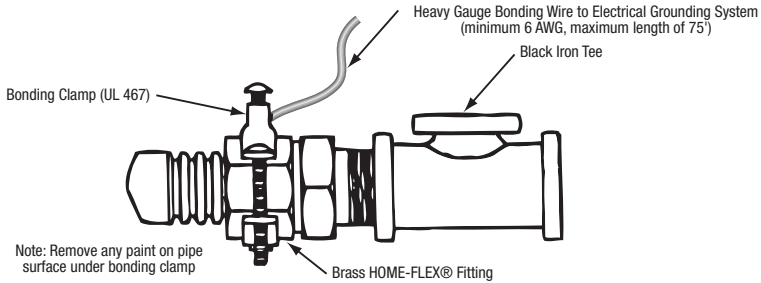
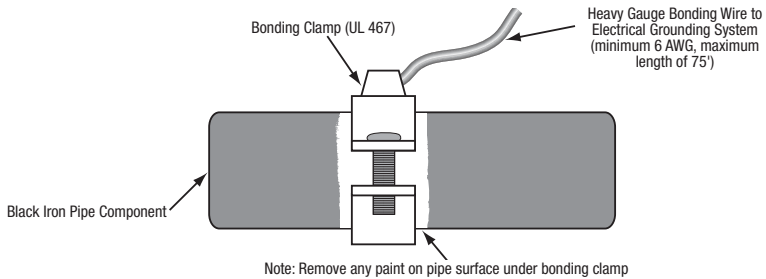

Figure 4.29 Bonding Connection to Brass Fitting
Figure 4.30 Bonding Connection to Rigid Black Iron Pipe
- Attachment between the CSST gas piping system and the bonding clamp must be made by connecting to a HOME-FLEX® brass fitting (Figure 4.29), or any rigid pipe between the first CSST fitting in the system and the meter (Figure 4.30). Under no circumstance is HOME-FLEX® CSST tubing to be used as the attachment point for the bonding conductor.